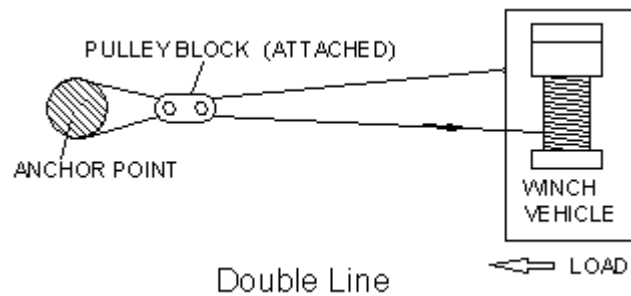

Fig.9
2. A method of rigging used to obtain a mechanical advantage. The use of a pulley block as a traveling block will almost double the winch pulling capacity. (See Fig. 9)